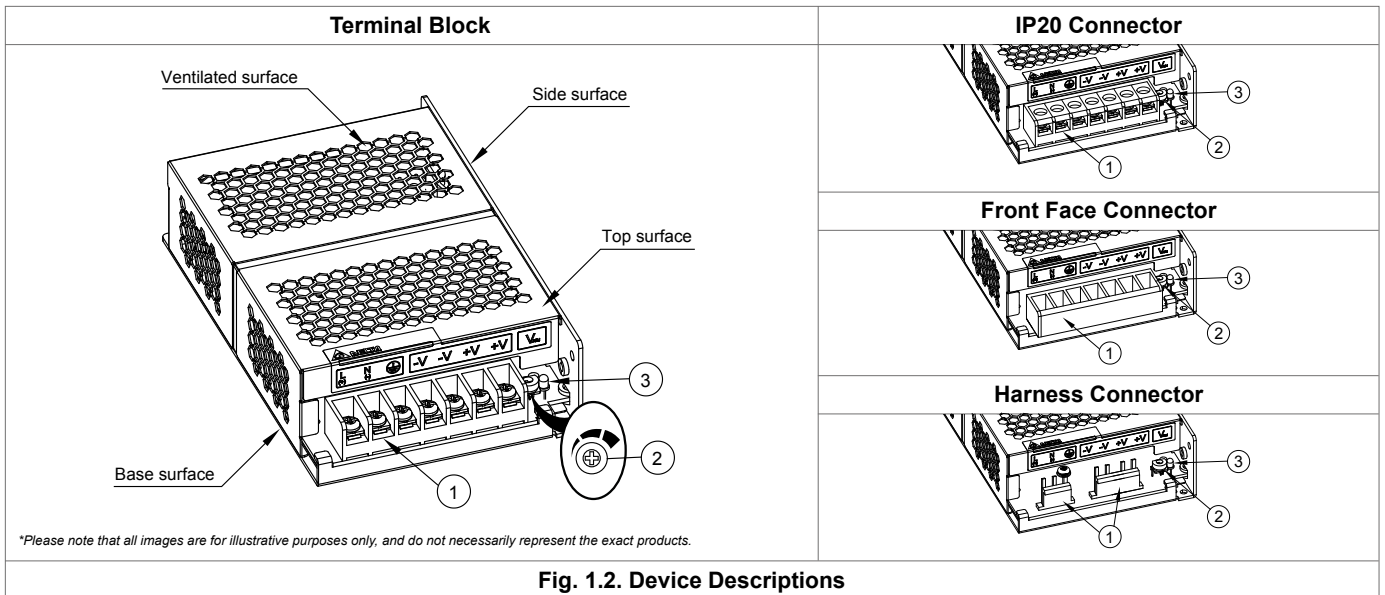

Fig. 1.2. Device Descriptions
► **PMH-100WCA□, PMH-100WCC□, PMH-100WCN□, PMH-150WCA□, PMH-150WCD□, PMH-200WCB□** (Refer to Fig. 1.2)
- ① Input & Output connector
- ② DC voltage adjustment potentiometer
- ③ DC OK control LED (Green)